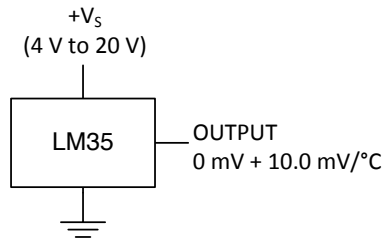

Figure 14. Basic Centigrade Temperature Sensor (2 °C to 150 °C)
Unless otherwise noted, these specifications apply: $-55^{\circ}\text{C} \leq T_J \leq 150^{\circ}\text{C}$ for the LM35 and LM35A; $-40^{\circ}\text{C} \leq T_J \leq 110^{\circ}\text{C}$ for the LM35C and LM35CA; and $0^{\circ}\text{C} \leq T_J \leq 100^{\circ}\text{C}$ for the LM35D. $V_S = 5\text{ Vdc}$ and $I_{L\text{LOAD}} = 50\text{ }\mu\text{A}$, in the circuit of Full-Range Centigrade Temperature Sensor. These specifications also apply from 2°C to T_{MAX} in the circuit of Figure 14.
(6) Quiescent current is defined in the circuit of Figure 14.